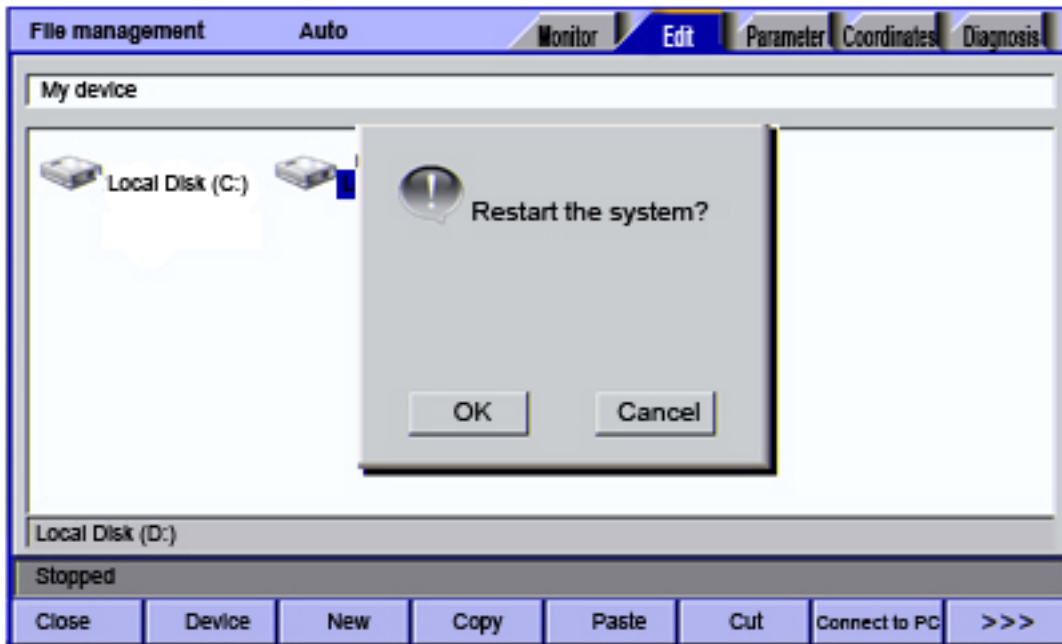

Fig. 9-1
(1) In the main menu, press [] to enter the program interface;
(2) Press [File] to enter the file interface;
(3) Press [] and the system asks whether restart or not, as shown in Fig. 9-1;